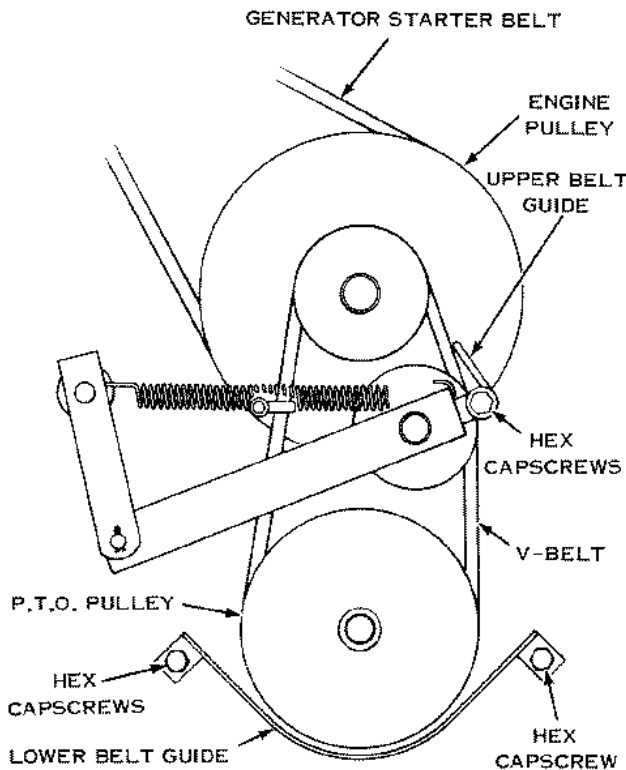

Figure 19
3. With the P.T.O. lever still in the ON position, loosen the hex capscrew which secures the upper belt guide shown in Figure 19. Adjust upper belt guide for 1/8 to 1/4 inch clearance between belt and belt guide. Tighten hex capscrew securely.
P.T.O. BELT ADJUSTMENT (See Figure 19)